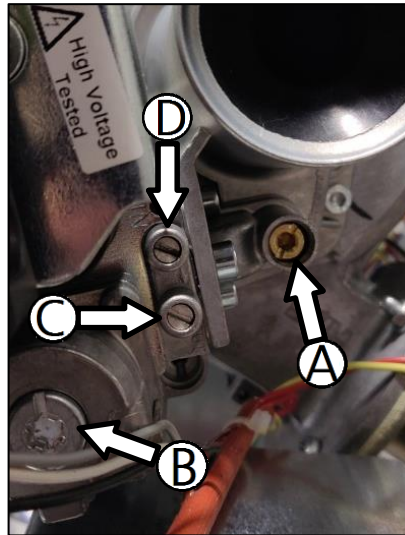

Fig.2
In the event of a new installation, when adapting another type of gas and during all extraordinary maintenance work, it is good practice to measure the correct connection pressure (inlet pressure) and working pressure (outlet pressure), and check the throttle valve adjustment on the Venturi (Det. "A" Fig. 2).
3.13.3 Checking the connection and working pressure (Fig. 2)
Using a suitable tool to turn screw "A" (Fig. 2 and Fig.4) of the throttle valve located on the "Venturi" of the "blower". Turn the screw clockwise to decrease the gas flow (amount) and turn it anticlockwise to increase the gas flow. See the calibration values reported in Table 1.